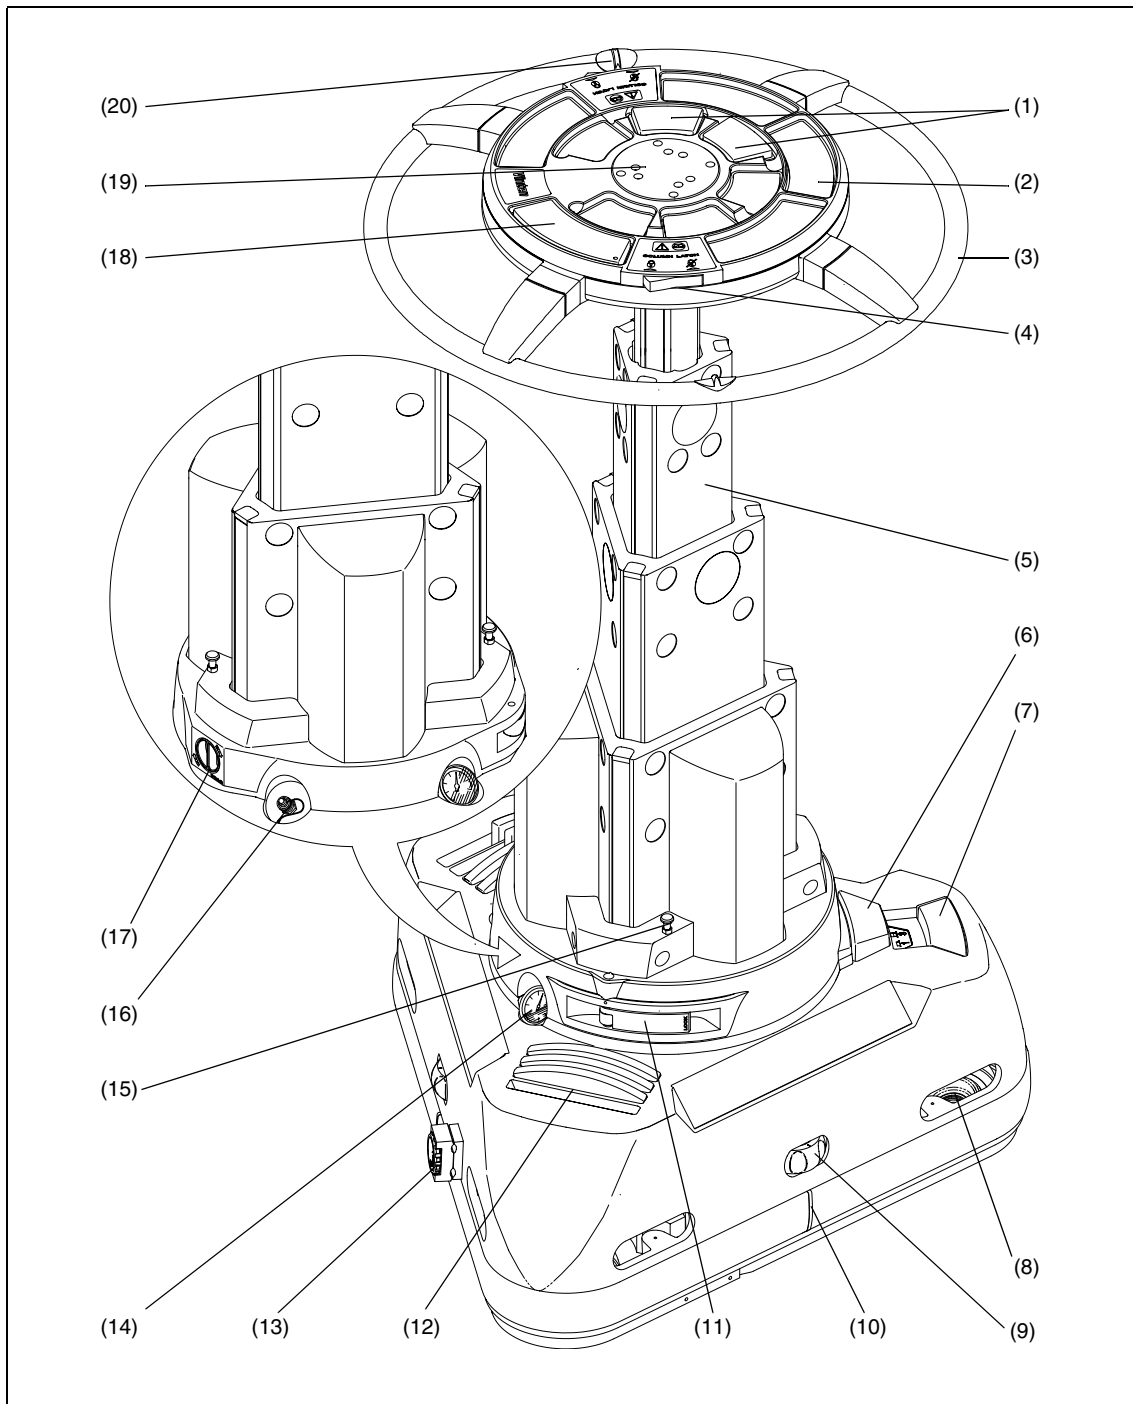

Fig 1 Quattro-S Pedestal
Two types of indicator may be fitted on the steering ring to show the straight-ahead position. One type consists of a plastic moulding (20) as shown in Fig 1. The other comprises two groups of rivets on the underside of the steering ring, as shown in Fig 6.